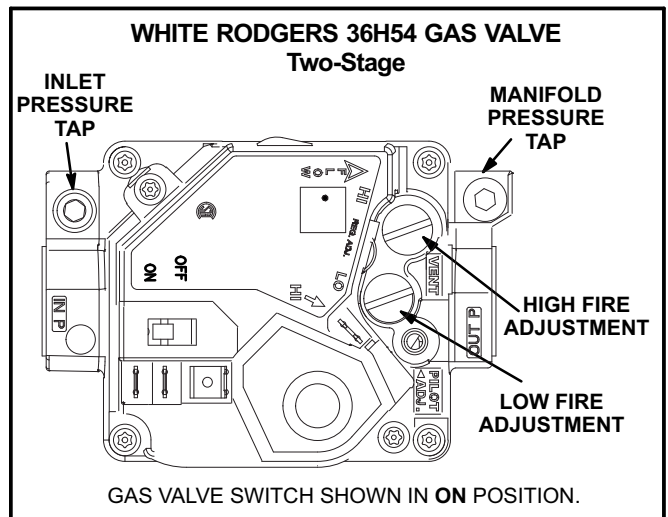
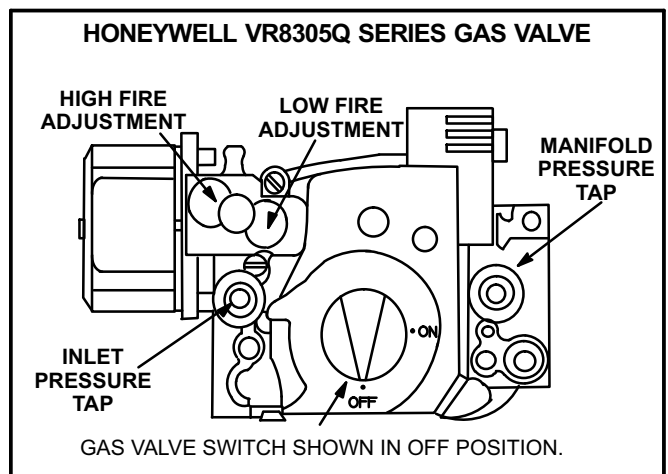

FIGURE 16
FIGURE 17
Gas Valve Operation for Honeywell VR8305Q or White Rodgers 36H54 (figure 16 or 17)
- 5- Turn gas valve switch to **OFF**. See figure 16. On Honeywell VR8305Q gas valves, turn the knob on the gas valve clockwise ➡ to “**OFF**”. Do not force. See figure 17.
- 6- Wait five (5) minutes to clear out any gas. If you then smell gas, **STOP!** Immediately call your gas supplier from a neighbor's phone. Follow the gas supplier's instructions. If you do not smell gas, go to the next step.
- 7- Turn gas valve switch to **ON**. See figure 16. On Honeywell VR8305Q gas valves, turn the knob on the gas valve counterclockwise ⬅ to “**ON**”. Do not force. See figure 17.